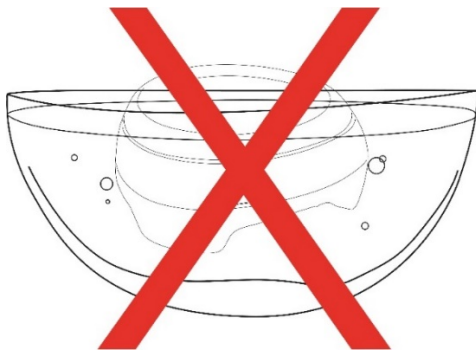

Figure 1: Do not Immerse
- Never soak or immerse the Urocap™ IV in water or any other liquids (Figure 1).